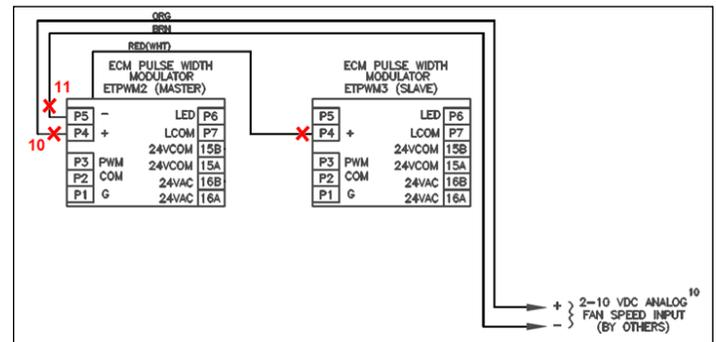

Figure 10 – Remove 2-10VDC motor control signal
#### REMOVE 2-10VDC WIRES AND ETPWM2/ETPWM3 BOARDS FROM EACH OTHER (SEE FIGURE 10)
- Lift wire between the back of ETPWM2 board and P4 of ETPWM3 (RED/WHT in Figure 10, but color may vary depending on unit).